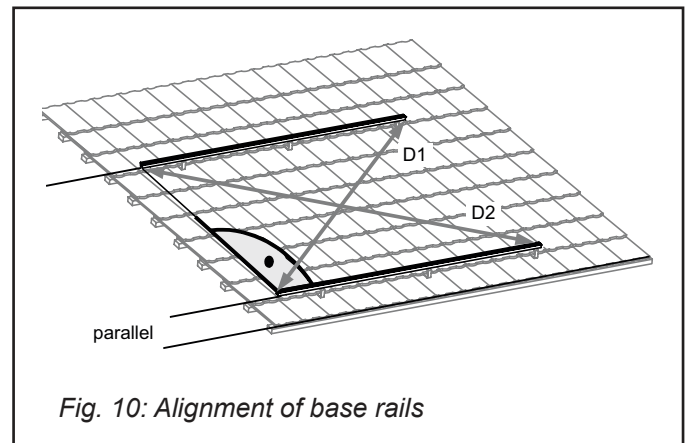

Fig. 10: Alignment of base rails
- Align the rails so that they lie in parallel to roof tiles. The diagonal between the rails must be of the same length:  $D1 = D2$  (Fig. 10).